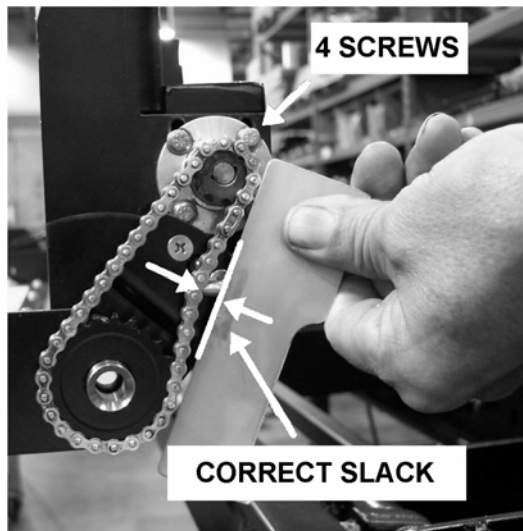

FIGURE 2-4: BRIDGEPLATE DRIVE CHAIN SLACK
- b. Refer to **Figure 2-4**. Place a straight edge along chain and deflect chain at its midpoint as shown. The measured gap should be between 1/8th inch and 3/16th inch. Continue with procedure if gap is outside of this range.